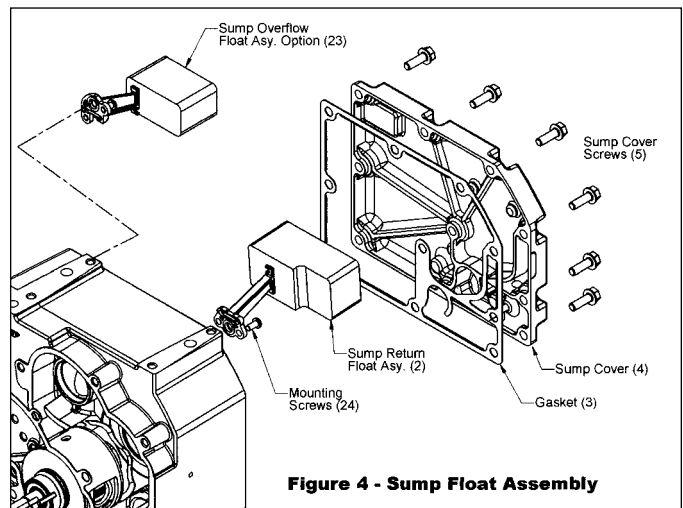

Figure 4 - Sump Float Assembly
1. Install the sump return float assembly (2) or sump overflow float assembly (23), holding the mount to the casing with one finger and inserting the two screws (24) with the other hand. Take care the rubber washer has not fallen out and is properly seated in the recess of the float assembly mount. See Figure 4.
2. Tighten the screws (24) to a torque of 18 lbs-in (2 Nm).